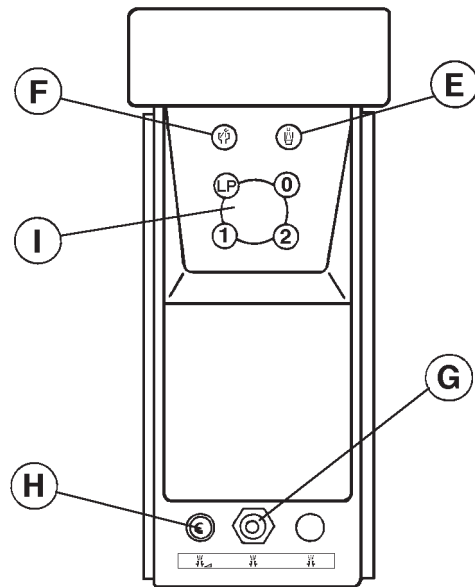

Fig.3-3 Assistant Side Control Panel
(2) Assistant Side Control Panel (**Fig.3-3**)